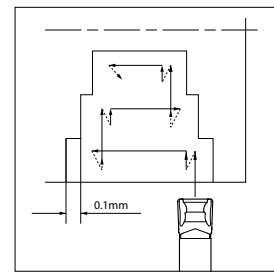

Fig. 3
1. When widening the groove width (Refer to Fig.3), apply the "Step Turning."